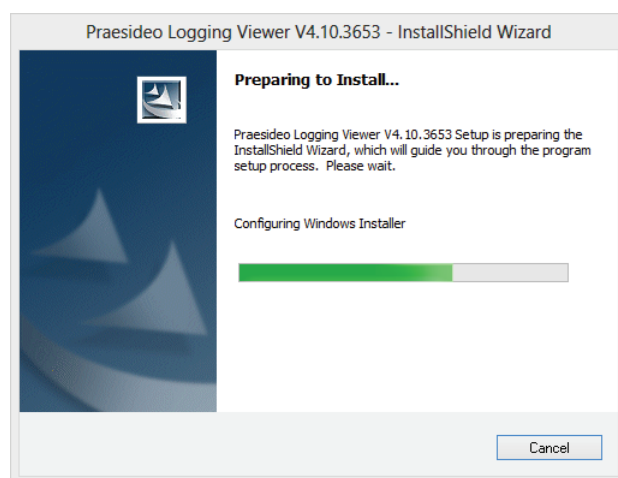

figure 59.1: Logging viewer setup
- 3 Click the *Open* button to start the setup program of the *Logging Viewer*. A screen similar to the one in figure 59.1 appears.